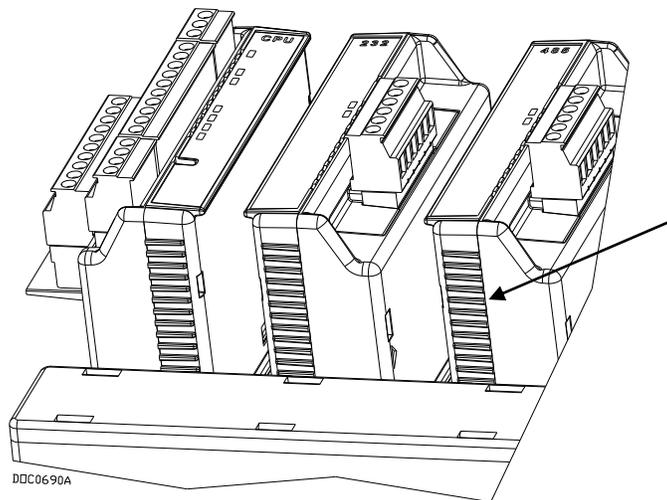

Figure 4-3. Ridged Edges on Modules
3. Place your fingers on the ridged edges on both sides of the module and pull out gently (see *Figure 4-3*). The cover should slide forward and stop, releasing the module lock.